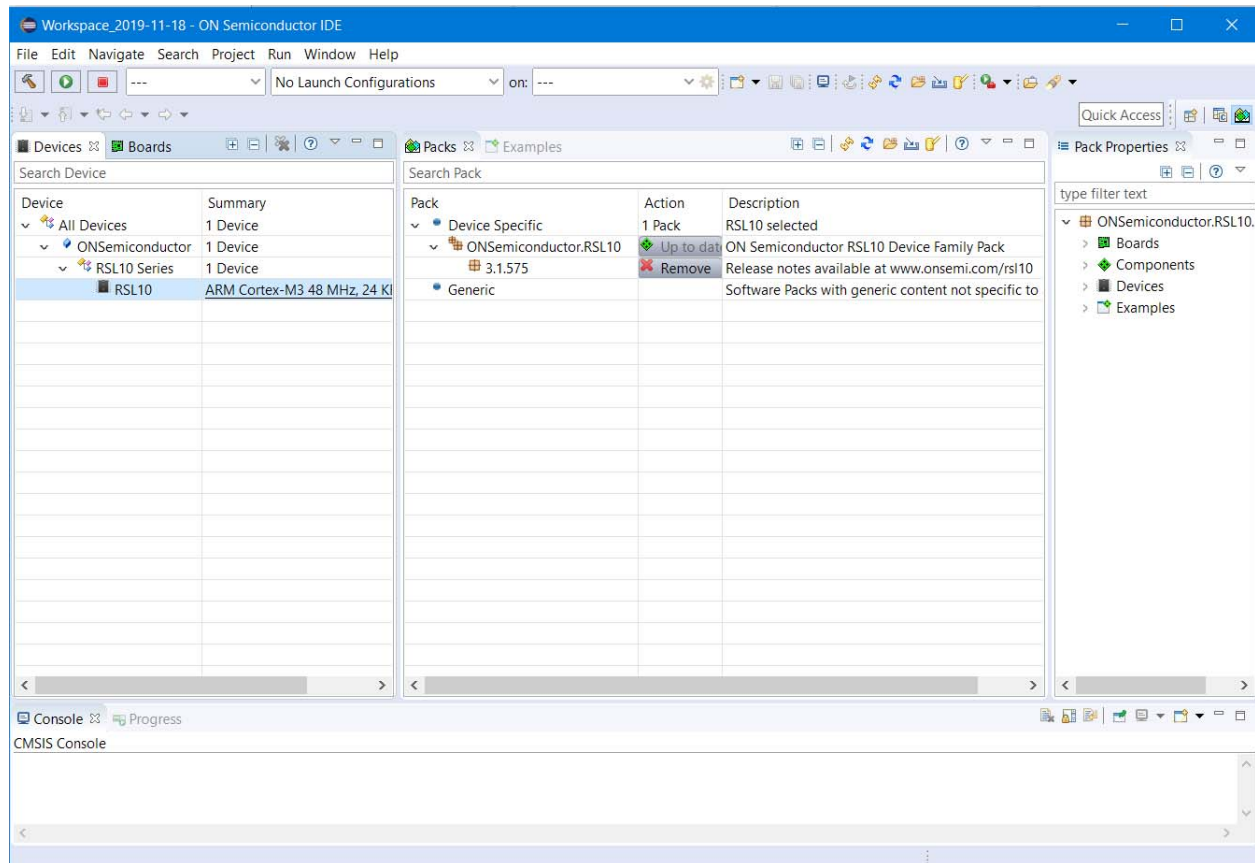

Figure 4. Pack Manager Perspective after RSL10 CMSIS-Pack is Installed
7. The RSL10 CMSIS-Pack now appears in the list of installed packs. In the **Devices** tab, if you expand **All Devices > onsemi > RSL10 Series** you can see RSL10 listed there. You can manage your installed packs in the **Packs** tab. Expanding **ON Semiconductor > RSL10** makes the **Pack Properties** tab display the details of the RSL10 CMSIS-Pack. Figure 4 illustrates what the Pack Manager perspective looks like after installation.